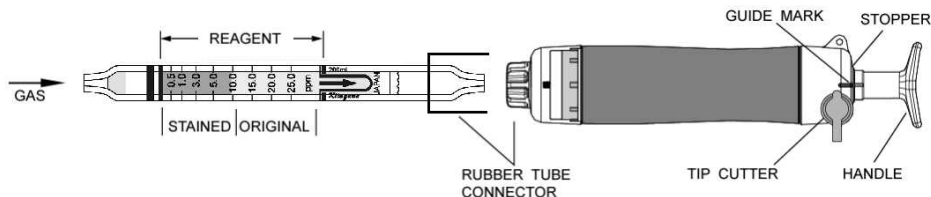

Fig.1
- ① Break both ends of the detector tube.
- ② Insert the detector tube into the aspirating pump securely as shown in Fig.1. (Arrow mark shall point to the pump.)
- ③ Align the guide marks on the shaft and stopper of the aspirating pump.
- ④ Pull the pump handle at a full stroke until it locks and wait for 1.5 minutes or until the completion of sampling is confirmed with the flow indicator of the pump (See descriptions about the flow indicator in the instruction manual of the pump).
- ⑤ Turn the pump handle right or left by 1/4 (90°), push it toward the pump without removing the detector tube from the pump, and repeat the steps ③~④ once more.
- ⑥ On completion of sampling, read the scale at the maximum point of the stained layer.